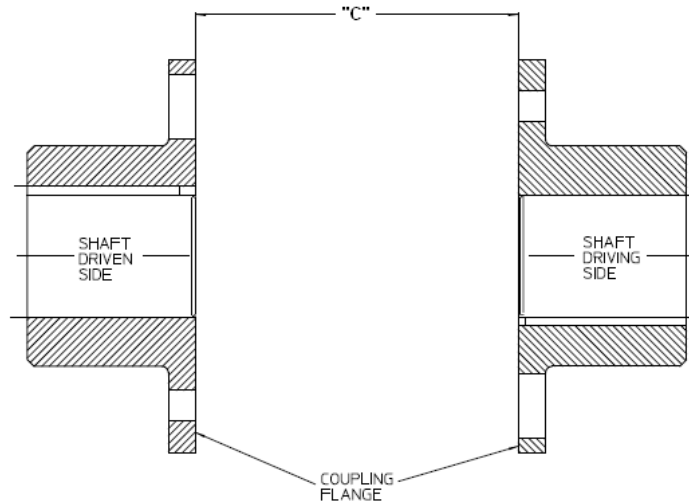
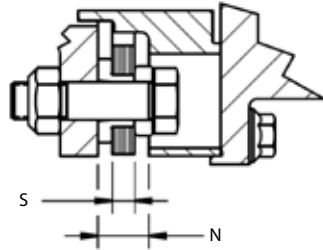

Figure 9 - Mounting Hubs on Shafts
Figure 11 - Alignment confirmation values.
9.1. Verify that the hubs have been mounted to provide the correct "C" dimension shown in Figure 9 and defined in Table 1. The "C" dimension is the distance measured between the faces of the two hub flanges. Note that the "C" dimension does not include the narrow extended length of material that provides the pilot on the outside diameter of the hub.
- 9.8. As an assembly and alignment check, measure the distance “N” between the flanges of the hub and the center spool at each end, as shown in Figure 9 and Figure 11. Dimension “N” should be measured at four (4) positions equally spaced around the circumference of the disc pack gap (at top, bottom, and side positions) at each end.
- If the N_{average} value is outside of these specifications, use a more precise measurement method to verify an acceptable gap, by first measuring the thickness of the disc pack “S” as shown in Figure 11. The discs should be tightly compressed during the measurement. Calculate “G” by subtracting “S” from N_{average}.